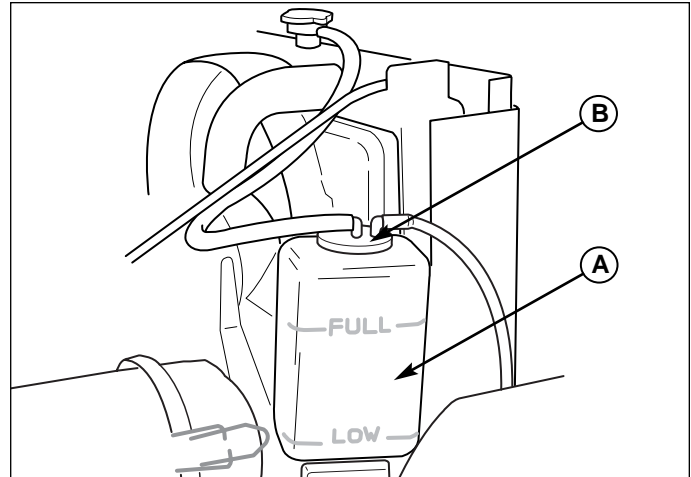

Figure 11A. Engine Coolant and Overflow
1. Check the coolant in the overflow reservoir (A, Figures 11A & 11B). Coolant should be between the "FULL" and "LOW" marks on the tank.
2. If coolant level is below the "LOW" on the overflow reservoir, add coolant by shutting off the engine, allowing the engine to cool, removing the reservoir cap (B, Figures 11A & 11B) and adding coolant. Refer to Antifreeze container for proper mix ratio of Antifreeze and distilled water.